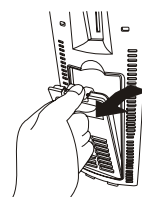

Figure 1
1. Press the elastic piece at upper end of lint filter to release the tab from the filter cover, and pull the lint filter outward to remove it. (See Figure 1).